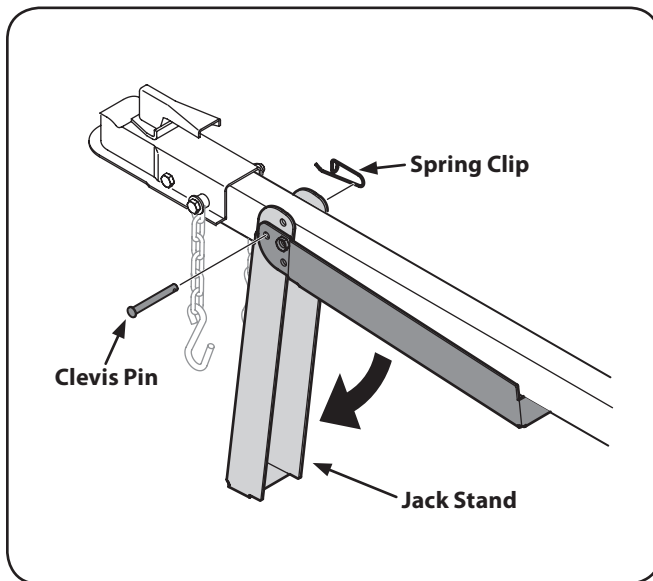

Figure 3-1
2. Secure the jack stand in position with the clevis pin and spring clip. See Fig. 3-1.